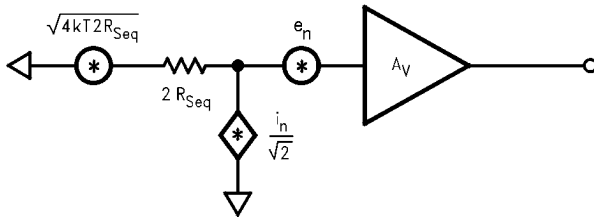
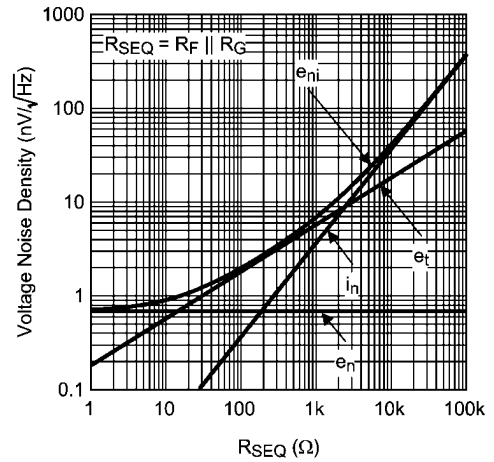

FIGURE 10. Noise Model with $R_f || R_g = R_{seq}$
FIGURE 11. Voltage Noise Density vs. Source Resistance
Figure 10 illustrates the equivalent noise model using this assumption. Figure 11 is a plot of e_{ni} against equivalent source resistance (R_{seq}) with all of the contributing voltage noise source of Equation 3. This plot gives the expected e_{ni} for a given (R_{seq}) which assumes $R_f || R_g = R_{seq}$ for bias current cancellation. The total equivalent output voltage noise (e_{no}) is $e_{ni} * A_V$.
As seen in Figure 11, e_{ni} is dominated by the intrinsic voltage noise (e_n) of the amplifier for equivalent source resistances below 15Ω . Between 15Ω and $2.5\text{ k}\Omega$, e_{ni} is dominated by the thermal noise ($e_t = \sqrt{4kT(2R_{seq})}$) of the equivalent source resistance R_{seq} ; incidentally, this is the range of R_{seq} values where the LMH6629 has the best (lowest) Noise Figure (NF) for the case where $R_{seq} = R_f || R_g$.
Above $2.5\text{ k}\Omega$, e_{ni} is dominated by the amplifier's current noise ($i_n = \sqrt{2} i_{nR_{seq}}$). When $R_{seq} = 190\Omega$ (i.e., $R_{seq} = e_n / \sqrt{2} i_n$), the contribution from voltage noise and current noise of LMH6629 is equal. For example, configured with a gain of +10V/V giving a -3dB of 825 MHz and driven from $R_{seq} = R_f || R_g = 20\Omega$ ($e_{ni} = 1.07\text{ nV}/\sqrt{\text{Hz}}$ from Figure 11), the LMH6629 produces a total equivalent output noise voltage ($e_{ni} * 10\text{ V/V} * \sqrt{(1.57 * 825\text{ MHz})}$) of $385\text{ }\mu\text{V}_{\text{rms}}$.